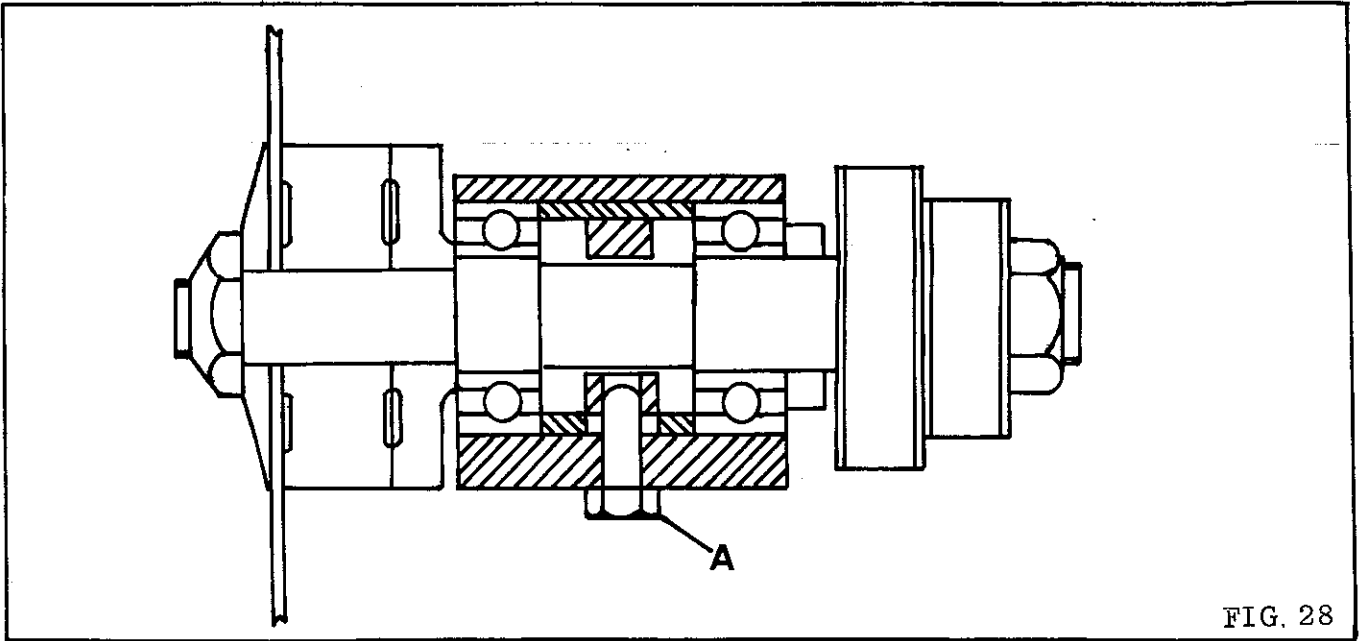

FIG. 28
1. Loosen the hexagon head adjuster bolt "A" in FIG.28, and tap spindle (with hide-face hammer) as required, taking care not to damage the threads on spindle ends. Place a steel rule along both sides of riving knife to check that saw is central.